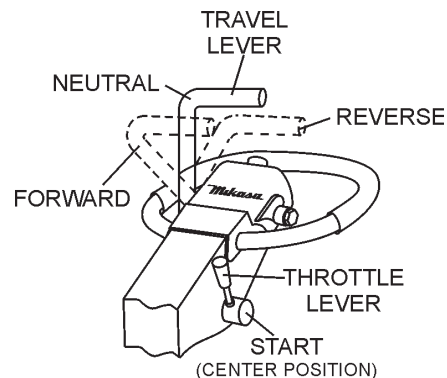

Figure 16. Travel/Throttle Lever (Start Positions)
2. Place the **throttle lever** (Figure 16) in the **START** position (center). Place the **travel lever** in the neutral position (center)
- Move the throttle lever to the **START** position (Figure 16).
- Return the throttle lever to the **START** position (Figure 16). Allow the machine to cool down for 2 to 3 minutes.